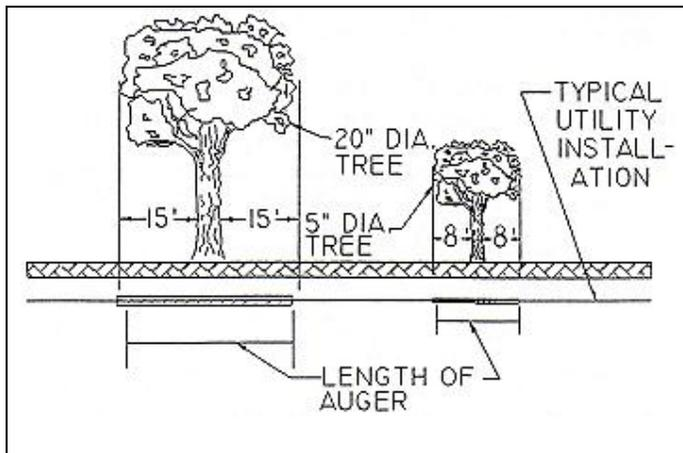

Figure 1
Any and all installations that will have impact on public trees in relation to underground utilities are subject to the review and approval of the City Forester & Director of Public Works before the project starts. When possible, a plan showing the path of the underground utility in relationship to the surrounding trees shall be submitted to the City Forester & Director Public Works two (2) weeks before any work begins for approval of utility placement and technique. Open-cut excavating is allowed only up to the distance from various size trees, as listed below. Where there is insufficient space for trenching to bypass the Tree Protection Zone (TPZ), boring must be used in place of trenching. See Figures 1 and 2. You must bore at a minimum depth of three (3) feet. The surface area and subsoil directly adjacent to street trees shall not be disturbed as follows: